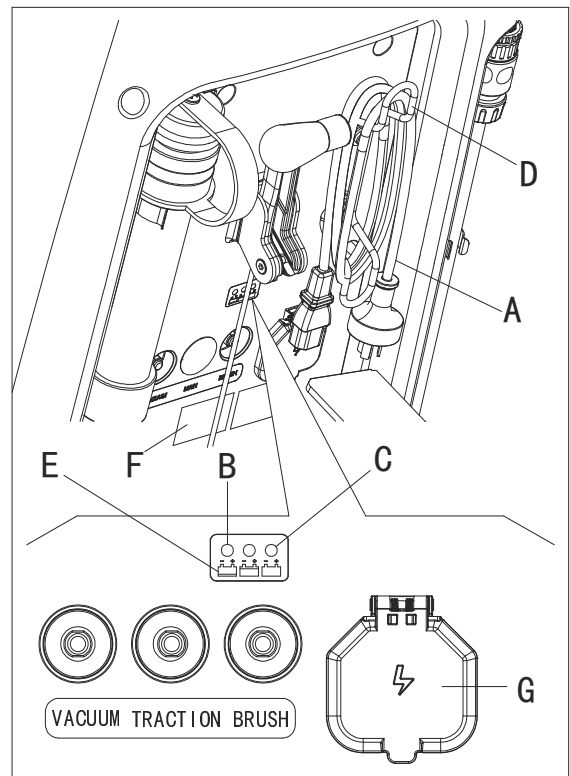

Figure 17
7. Connect the battery charger cable (A, Figure. 17) to the electrical mains (G) (the electrical mains voltage and frequency must be compatible with the battery charger values shown on the machine serial number plate (F). When the battery charger is connected to the electrical mains, all machine functions are automatically cut off. If the red warning light (B) on the battery charger control panel stays on, the battery charger is charging the batteries.
8. When the green warning light (C) turns on, the battery charging is completed.
9. When the battery charging is completed, disconnect the battery charger cable (A) from the electrical mains (G) and wind it round its housing (D).
For further information about the operation of the battery charger (E, Figure. 17), see the relevant Manual.